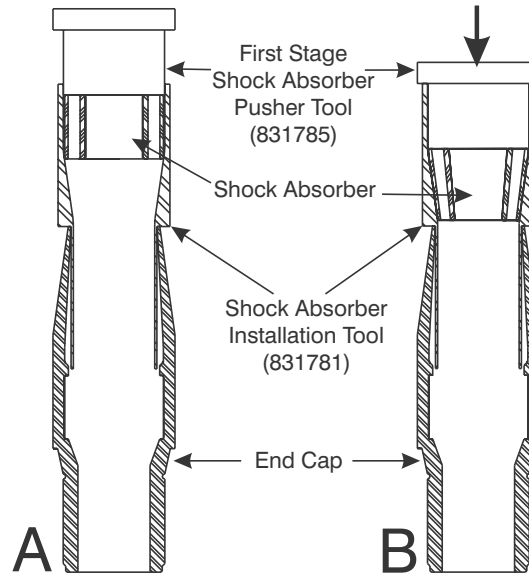

Figure 9-2. Compress Shock Absorber in Installation Tool 831781.
3. Center the Shock Absorber First Stage Pusher Tool P/N 831785 over the Shock Absorber as shown in Figure 9-2-A.
4. Compress the Shock Absorber in Installation Tool 831781 as shown in Figure 9-2-B.